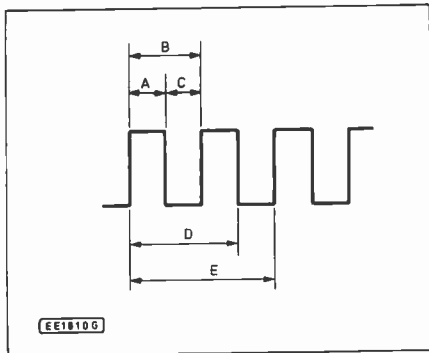

Fig. 5.13. Labelled squarewave.
16. Referring to the diagram of Fig. 5.13 which label (A, B, C, D or E) represents the mark/space ratio of the waveform?